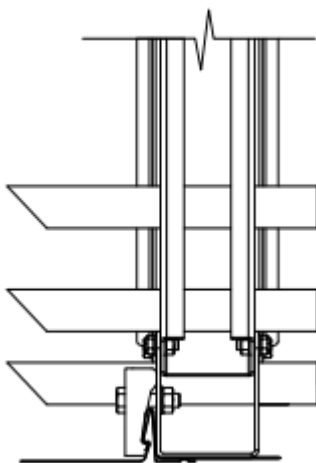

Figure 2.
- Install the U-bracket plates on one side of the roof seam (Figure 2).
- Place the RP-bracket on the other side of the seam (Figure 2).
- Make sure that the U- and RP-bracket parts are in the position shown in Figure 2.
- Screw together using an M8x35 mm bolt screw, M8 nut, and washer (Figure 2).
- Tighten the screws such that the U-bracket plate holds firmly on the roof material (Figure 2).